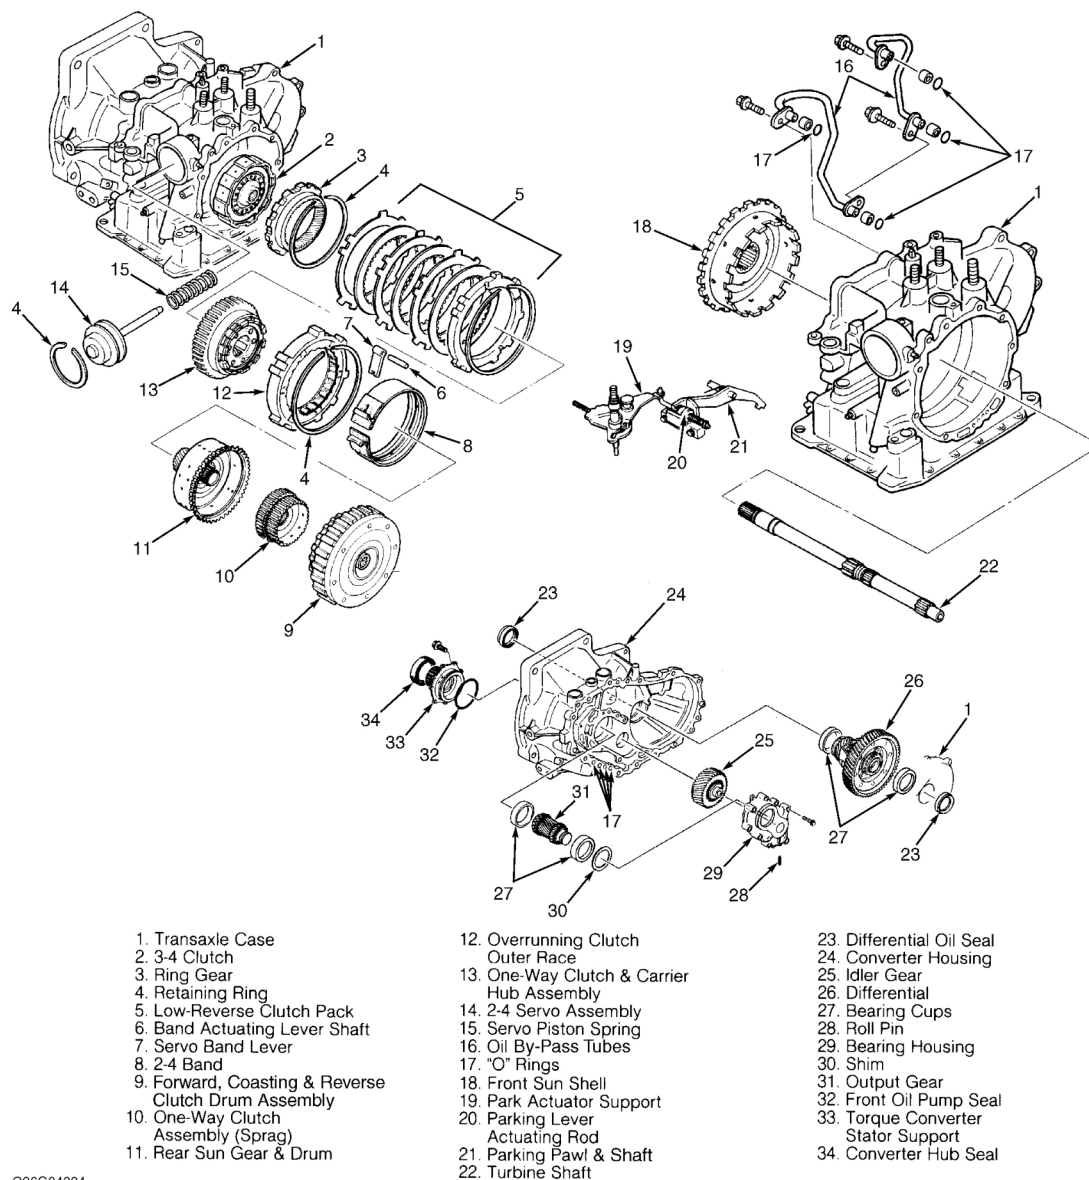

Fig. 5: Exploded View Of F4E-III Transaxle Assembly
1. Mount transaxle on stand. Carefully remove torque converter from case. Remove oil pump drive shaft. Remove turbine shaft seal ring located on end of turbine shaft. Remove dipstick tube from case. Remove Transmission Range (TR) sensor and Turbine Shaft Speed (TSS) sensor. Remove Vehicle Speed Sensor (VSS).
3. Remove manual control lever and manual valve detent lever. Remove parking rod support plate. Remove park actuator support and parking lever actuating rod as an assembly. See **Fig. 5**. Remove park lever plate, parking plate torsion spring and support.
using wire to prevent stretching. Remove servo band lever by pulling upwards on band actuating lever shaft, allowing servo band lever to be removed from case. See **Fig. 5**.
6. Remove one-way clutch retaining ring. Remove one-way clutch outer race. Remove waved washer from case. Remove one-way clutch and carrier hub assembly. Remove low/reverse clutch pressure plate retaining ring. Remove low/reverse clutch pressure plate and clutch pack. See **Fig. 5**. Remove ring gear retaining ring. Remove ring gear from front sun shell.
8. Using appropriate spring compressor, compress low/reverse clutch return spring assembly and remove retaining ring. See **Fig. 18**. Remove low/reverse clutch return spring assembly and piston. Remove parking pawl shaft E-clip, parking pawl return spring, parking pawl shaft and parking pawl. See **Fig. 5**. Remove differential assembly.
10. Remove converter housing from holding fixture. Remove torque converter stator support bolts. See **Fig. 5**. Press torque converter stator support out of torque converter housing using appropriate step plate. Using slide hammer and appropriate puller, remove rear bearing cup and shims from case.